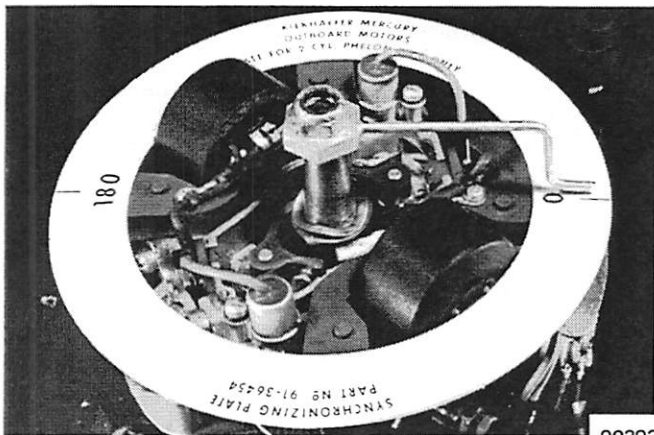

Figure 1. Degree Plate C-91-36454A1 on Stator
- (1) With flywheel removed and components tested, place Synchronizing (Degree) Plate (C-91-36454A1) on rim of stator plate. (Figure 1)